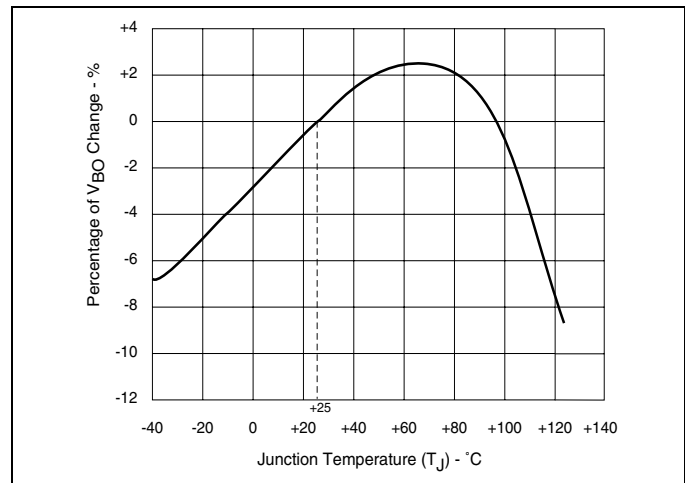

Figure 9.5 Normalized V_{BO} Change vs Junction Temperature
- See Figure 9.5 for V_{BO} change vs junction temperature.